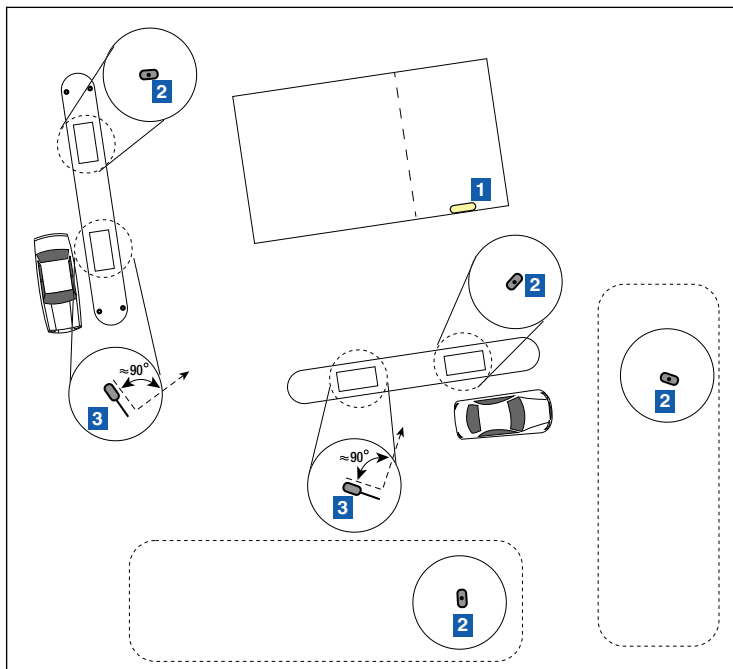

Figure 27. Positioning Horizontal Transmitter Antennas
2. Where it is impossible to install the Transmitter with the antenna oriented vertically (perpendicular to the ground), the antenna must be oriented horizontally (parallel with the ground) and pointed approximately 90 degrees to the location of the Gateway (see Figure 27).
LEGEND FOR NUMBERED BOXES IN Figure 27